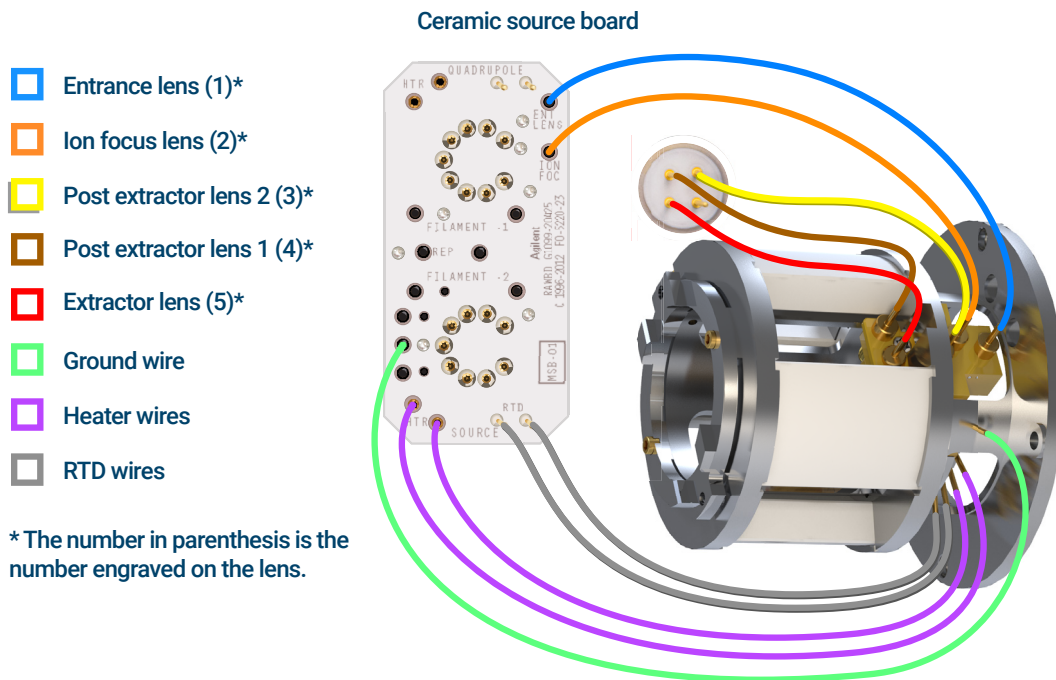

Figure 68 Wiring between the ceramic source board/feedthrough connector and the EI HES radiator
- 1 Use tweezers or needle nose pliers to connect/disconnect the green ground wire and the 5 lens wires from the radiator. Do not bend the wires any more than necessary. (See Figure 68.)